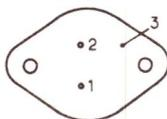

Figure 6 — Alimentation
4. ALIMENTATION-GENERATEUR 1 kHz - CIRCUIT DU VU-METRE (fig. 6)